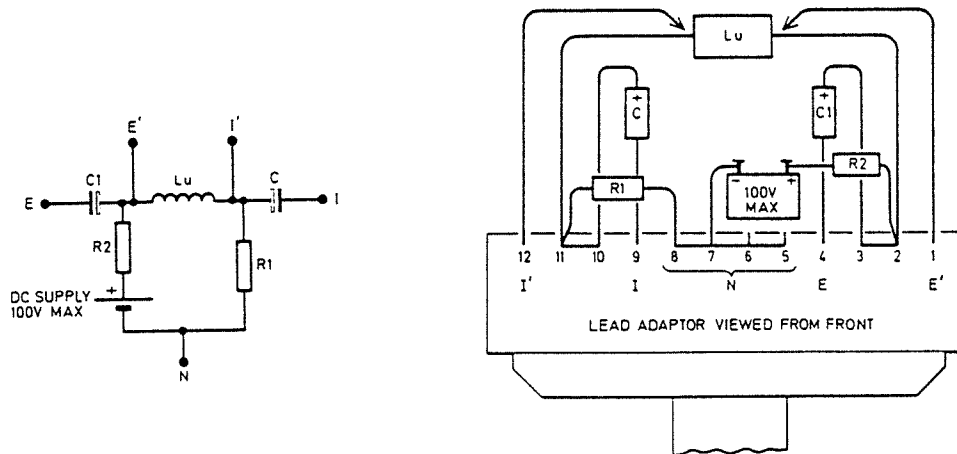
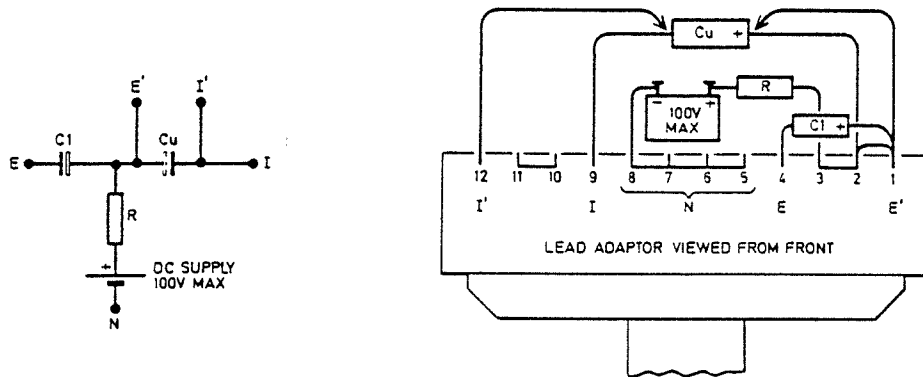
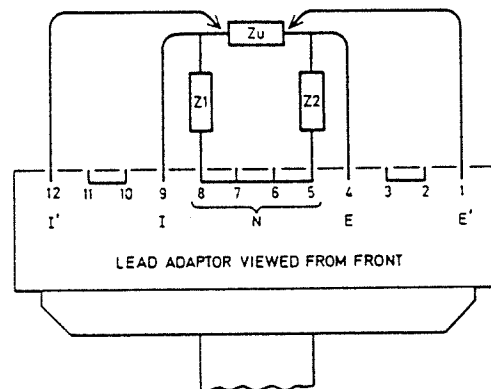

Fig. 4 Energising Inductors
Fig. 6 Capacitor Bias exceeding 2V
Fig. 8 Lead Adaptor for In-situ tests
Ferrite-cored coils are usually best measured at 1kHz. Larger audio inductors, with laminated cores, are normally checked at 100Hz. When core materials can be damaged by excessive magnetisation (for example, some tape heads and microphone transformers), check before connection that the test signal level (250mV via 100 $\Omega$ ) is acceptable. It should also be noted that a residual 20mV d.c. is present at the measurement connections. If this is unacceptable, use the Lead Adaptor and insert a series blocking capacitor of not less than 100 $\mu$ F (C1 in Fig.4).
For some applications, separate access to these four points will be required. Two instances have already been described : Energising Inductors (see Figure 4 ) and Capacitor Bias Exceeding 2V (Figure 6 ). Another valuable application is the measurement of components connected into a circuit (in-situ tests). In all these instances, the use of a neutral (N) terminal substantially eliminates the effect of components which would otherwise shunt the component under test. In Fig. 8 , for example, a measurement of  $Z_u$  with:
References in this Manual to the optional Lead Adaptor relate to Kelvin Lead Adaptor type 1042. This item is described in the last two paragraphs of the Introduction (see page 8). Connections to the Kelvin clips are coded by coloured sleeves. Their relationships to Fig. 8 are as follows: